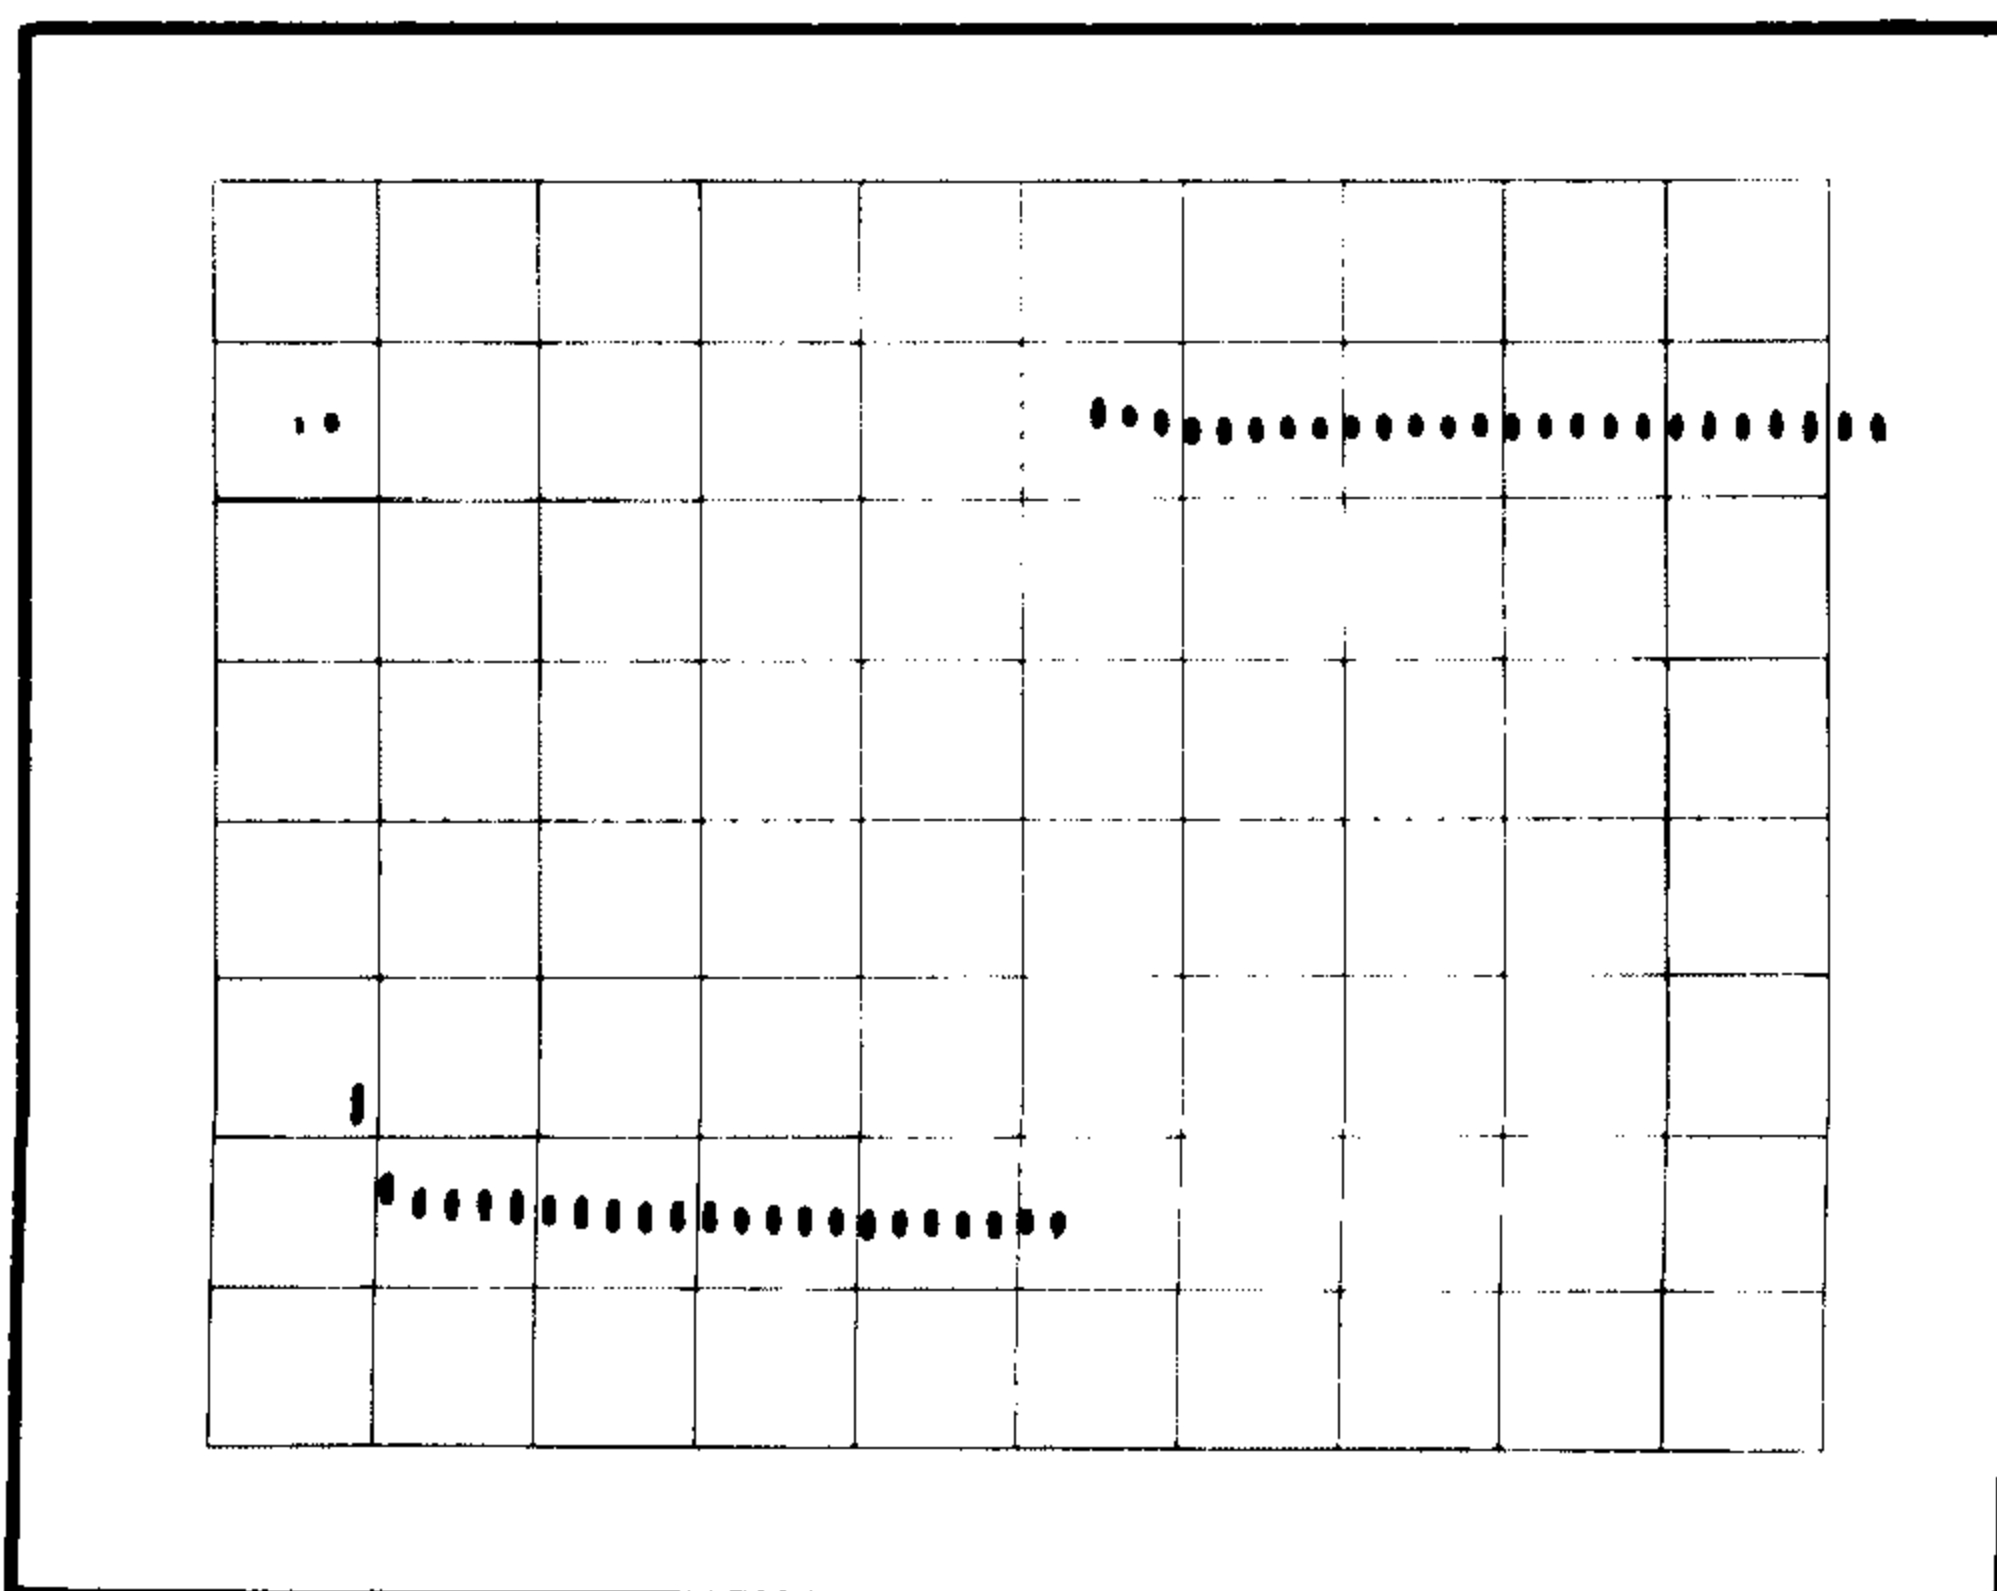

Fig. 5-2. Typical display showing unity dot transient response.
d. Using the Type 4S2A SMOOTHING control adjust the dot display on the CRT for no undershoot or overshoot (Unity Dot Transient Response—see Fig. 5-2).